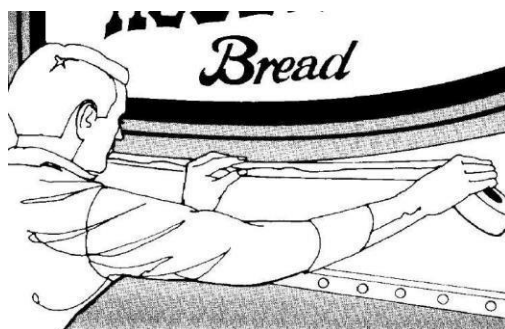

Figure 2. Making a Drip Tray
3. Make a drip tray using wide masking tape that has been doubled over and adhered immediately below the graphic. This prevents residue from dripping around the graphic. See Figure 2 below.
4. Make a drip tray using wide masking tape that has been doubled over and adhered directly below the graphic. This prevents residue from dripping around the graphic. See FIGURE 2 above.